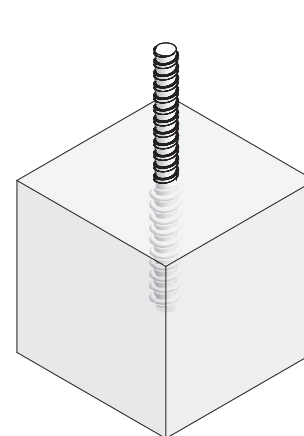

Fig. 9.5
- ➔ Insert and screw in the DW 15 tie rod to attach the intended equipment (Fig. 9.5). Make sure to observe the Operating Instructions of the spiral anchor.